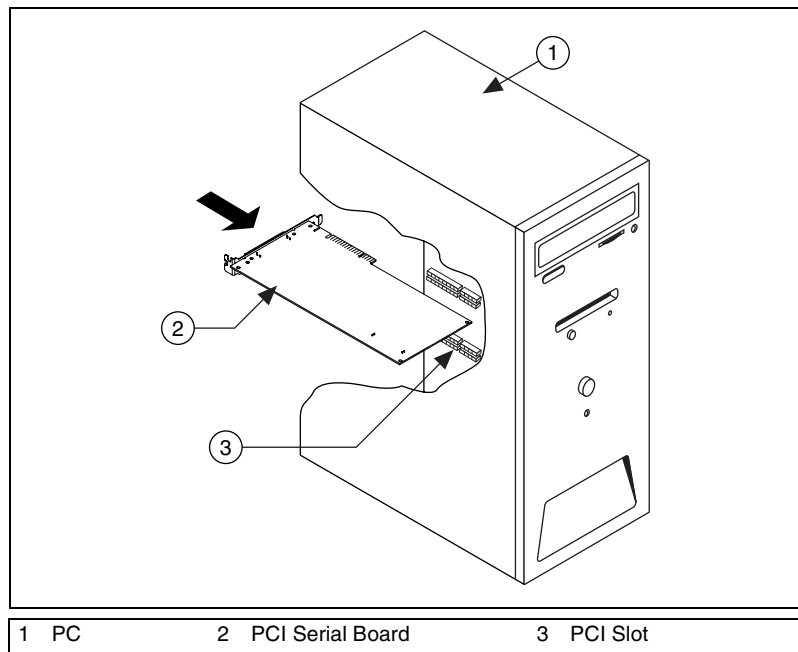

Figure 2-9. Installing the PCI Serial Board
6. Insert the PCI serial board into the slot with the serial connectors toward the opening on the back panel. Make sure that you insert the board all the way into the slot. The board might seem to click firmly into place, even though it is only part of the way in. Figure 2-9 shows how to install the PCI serial board into an expansion slot.